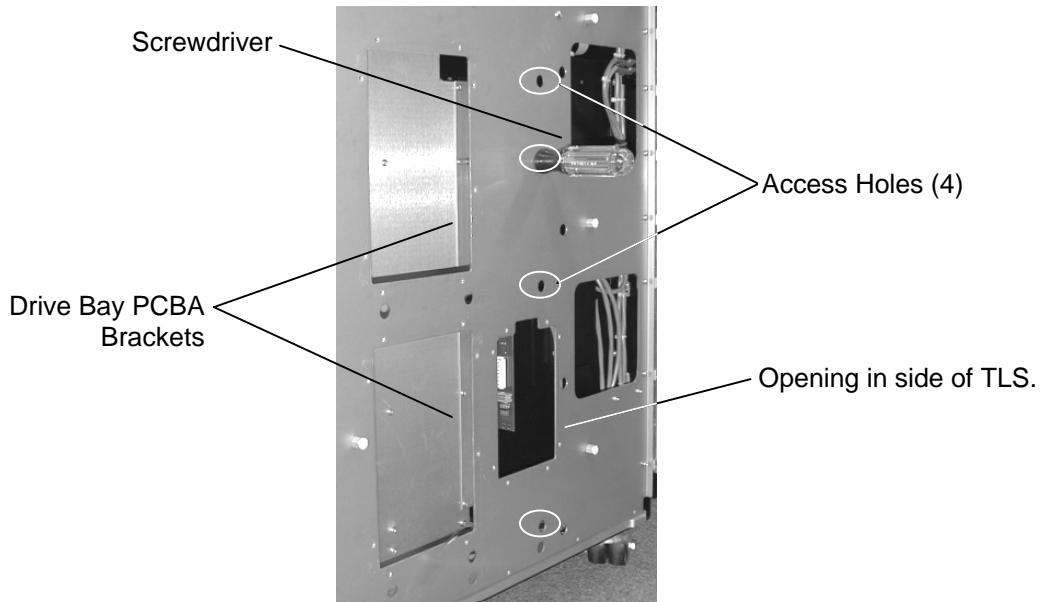

Figure 7-61 58xxx,68xxx and 88xxx Models Right Side Drive Bay PCBA Brackets and Access Holes
8. Through the access holes and/or the opening in the right side of the TLS use a long number 2 Phillips screwdriver to remove the three Drive Bay PCBA Bracket screws for the PCBA being removed. See Figure 7-61. Save the screws for later use.
9. Using a long number 2 Phillips screwdriver reach through the access holes and/or opening in the side of the TLS and tighten the three Drive Bay PCBA Bracket screws (Figure 7-61).